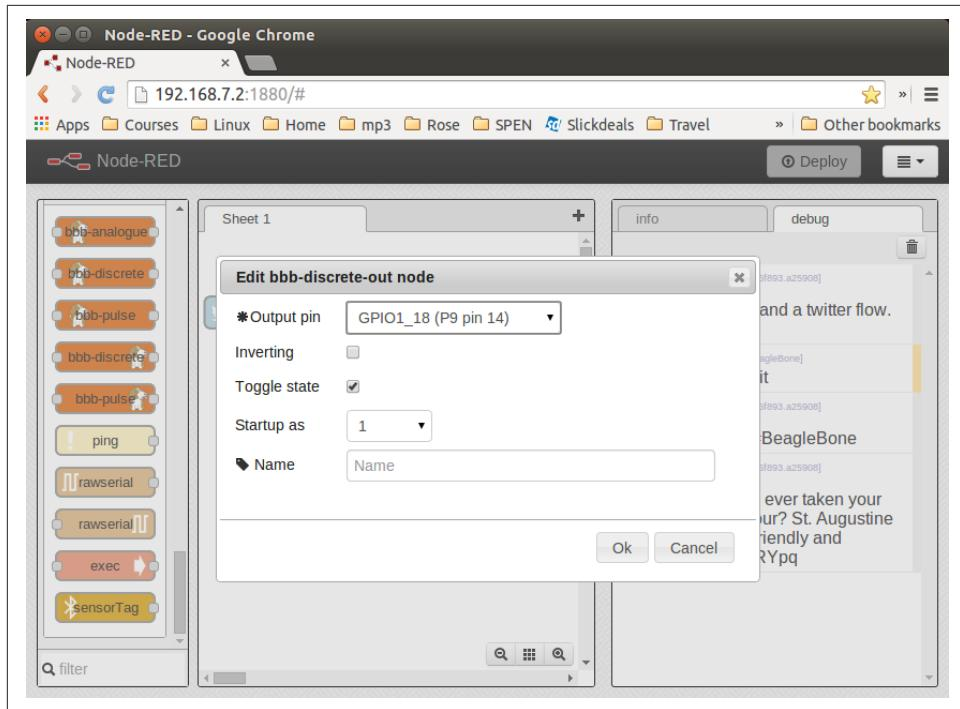

Figure 6-15. Node-RED adding bbb-discrete-out configuration
3. Double-click the node, select your GPIO pin and “Toggle state,” and then set “Startup as” to 1 (Figure 6-15).